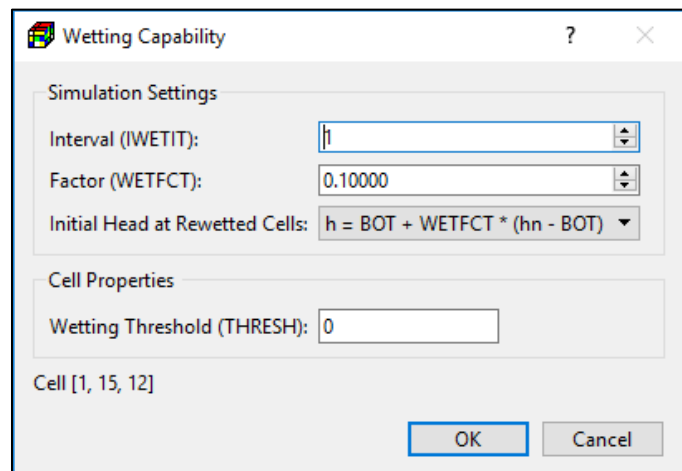

Figure 104. The Wetting Capability dialog box
1. **All input method:** Figure 104 shows the dialog box for specifying cell, vertex, or polygon properties.